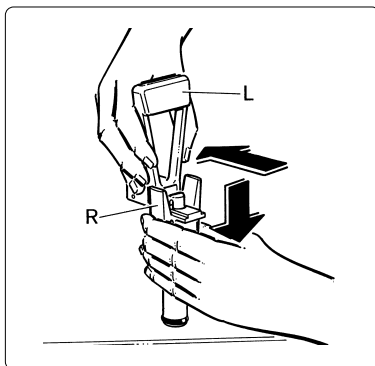

Fig. 13
- Remove the tap by keeping the body (R) pressed down and slipping the lever (L) from its lodging (see fig. 13).